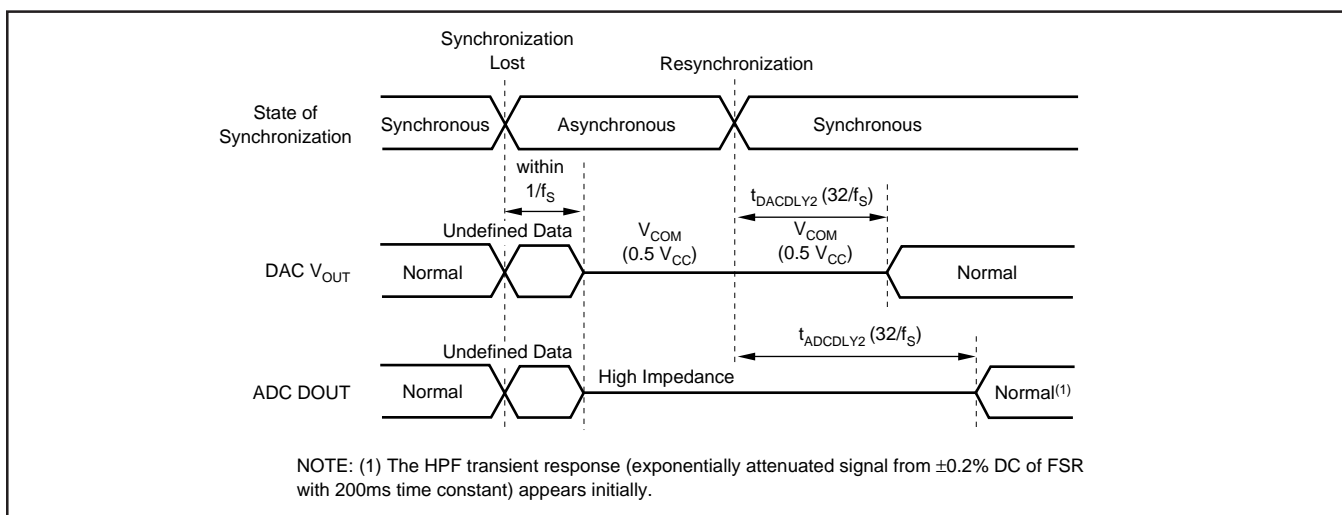

FIGURE 10. Loss of Synchronization Operation and Timing.
The PCM3501 requires that FS and BCK be synchronous with the system clock. Internal circuitry is included to detect a loss of synchronization between FS and the system clock input. If the phase relationship between FS and the system clock varies more than  $\pm 1.5$  BCK periods, the PCM3501 will detect a loss of synchronization. Upon detection, the DAC output is forced to  $0.5V_{CC}$  and the DOUT pin is forced to a high impedance state. This occurs within one sampling clock (FS) period of initial detection. Figure 10 shows the loss of synchronization operation and the DAC and ADC output delays associated with it.